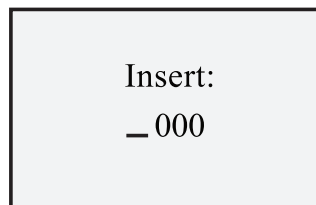

Fig. 4.15 Insert Function Block
1. Press OK at $>$ Insert FB in the Editor Frame, thus the inserting status is entered, as shown in Fig. 4.15.